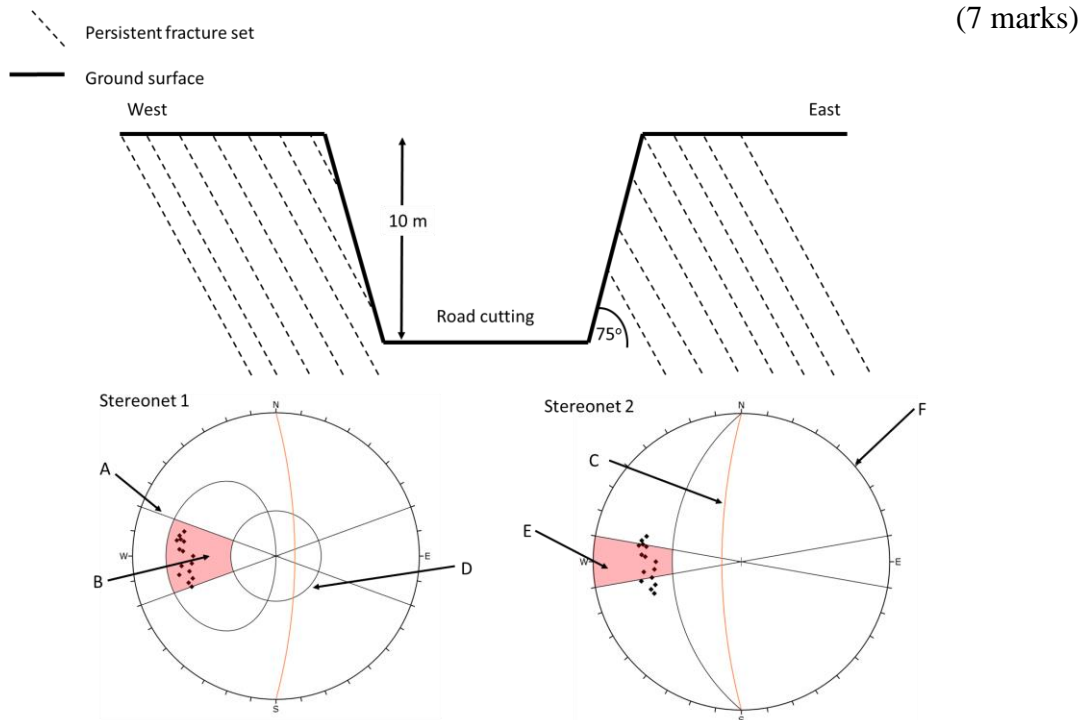

Figure Q5
The cutting is 10 m deep and both sides have been trimmed back to 75° . The rock mass has one set of persistent fractures, which have a friction angle of 35° . Figure Q5 shows a sketch of the cutting and two stereonet projections plotted with the poles of the fractures (black diamonds, which are the same in Stereonets 1 and 2). Stereonet 1 relates to the west side of the cutting and Stereonet 2 relates to the east side of the cutting. No other fracture sets are visible. The cliff section is dry.
- c.) Match the terms given below with the correct letters on Stereonets 1 and 2 (A - F) in Figure Q5. (6 marks)